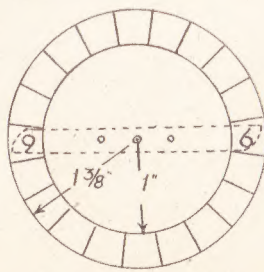

Fig. 3—Circle markings
Now press the lever to the left, and if all is O.K., the disc will be rotated to the left also. For discs (U) (units) cut two to the diameter in Fig. 3. It will be best here to describe the two circles on to paper and stick to the fretwood, leaving
Cut two of parts (E) and bore pivot holes at their exact centres. Fix these, one to each disc, to the back of the discs, in the position shown in Fig. 3, where the bar comes just behind opposite divisions. The parts, by the way, are cut from  $\frac{1}{8}$  in. wood. Fit these discs to the backboard, with a thin brass washer under the heads of the screws.
crossbar (E) on the (U) discs, as shown in Fig. 3. The cover board can now be made.